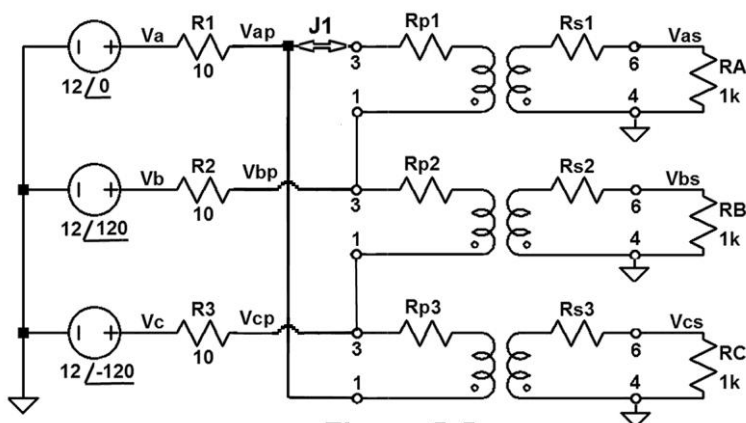

Figure 5-5
1. Connect the circuit in Figure 5-5 below. **J1** is a jumper that will be connected for part 1 and part 3 of this experiment, and disconnected for part 2. The frequency of the Three-phase source is 400Hz. The amplitude of each phase is 12V p-p at the phase angles indicated.